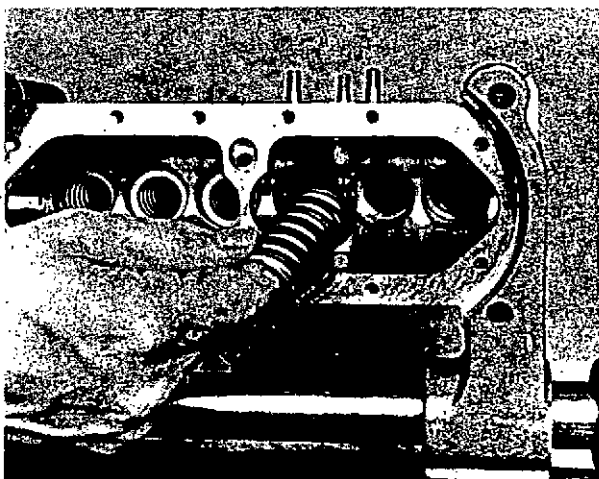

Fig. 38 Inserting upper plate and plunger spring
12. Insert the upper spring plates and plunger springs (fig. 38).